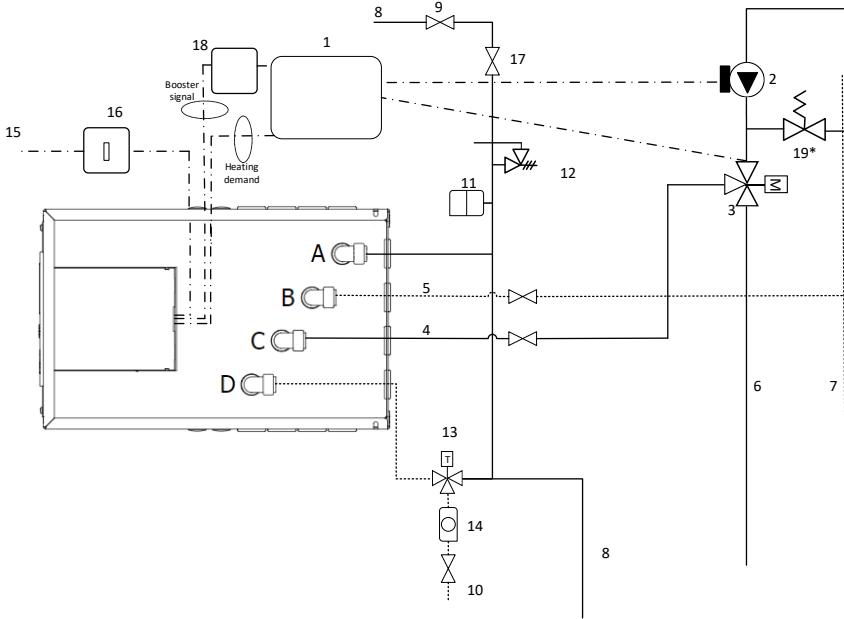

Figure 13.1: Example Wiring Option 2 Schematic (see Figure 3 for piping and electrical options available)
2. **+iLTHP option 2:** Daikin Low Temperature Heat Pump (Fig 13.1 & 13.2)
- Run and connect 3 Core mains power supply cable (16A, minimum 2.5mm² CSA) from the local 2-pole isolator to the Heat Battery controller (Figures 13.1 and 13.2).